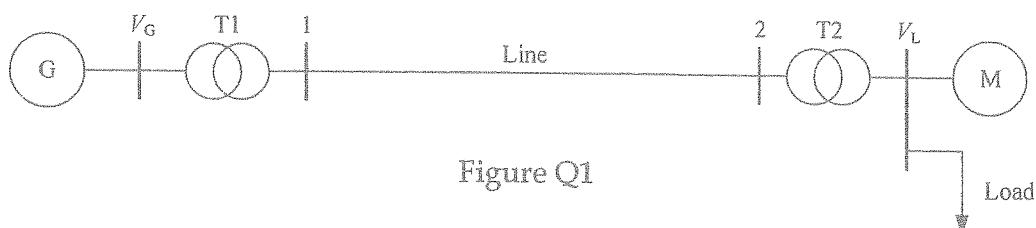

Figure Q1
- b) The three-phase power ratings, line-to-line voltage ratings and the impedances of the components of the electric power system shown in Figure Q1 are given as
A 20 MVA 0.8 lagging power factor load at 20 kV is connected to the load bus V_L as shown in Figure Q1.